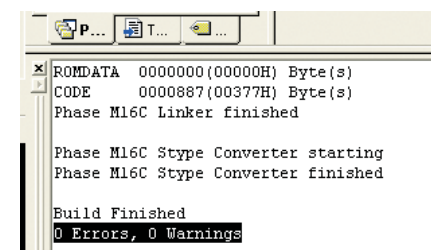

Figure 4. HEW with the skptest28 project compiled
- g) Click the “Build” icon, , to compile, assemble and link the project. HEW will look similar to Figure 4.